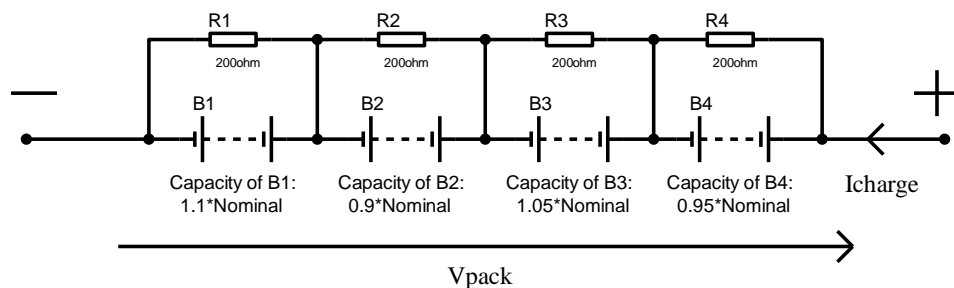

Figure 2 – Uncontrolled passive balancing system for a battery pack
3. a. With the aid of a suitable diagram, detail the key components required in a high-voltage multi-cell battery pack. The polarity of the cathode and anode should be clearly identified. (5)
- b. Describe 6 key functions of a Battery Management System for large battery packs. (6)
- c. i) A battery pack consisting of four 80V nominal modules connected in series will be balanced using an uncontrolled passive balancing technique during Constant Current-Constant Voltage (CC-CV) charging mode as shown in Figure 2. Before charging or balancing starts, the battery pack steady-state terminal voltage ( $V_{\text{pack}}$ ) is measured by the BMS to be 100V. Assuming that the  $200\Omega$  balancing resistors can be applied to the modules B1, B2, B3 and B4 instantaneously, calculate the instantaneous power dissipated in each resistor if the cell capacities are subject to the variations shown (state any assumptions made). (4)
- ii) During the CC-CV charging process a charging current of 8A is applied to the pack until the float-charge level of 100V per module is reached. Calculate the maximum instantaneous power dissipated by the balancing system during the charging process, stating any assumptions made. How could the system be improved to reduce heating effects in the pack? (2)